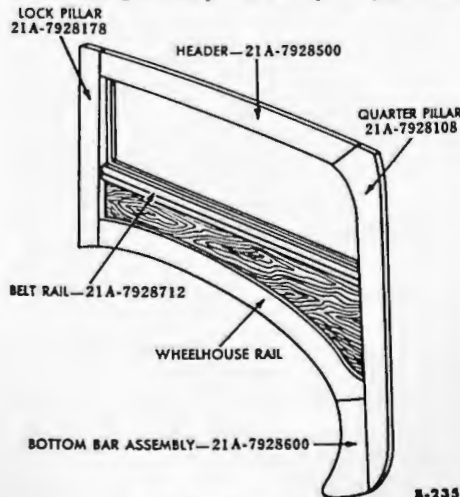

Fig. 3—Quarter Frame
(1) **HEADER REPLACEMENT (fig. 3).** Remove the necessary hardware and the glass from the quarter frame. Saw through the header near the quarter pillar and lock pillar. Remove the screws from the header joints. Using a chisel, clean the joints in the quarter pillar and lock pillar. Install the new header, using glue on the joints. Clamp the joints until the glue is set to ensure a tight joint. Install the screws in the header joints. Install the glass and hardware.
(2) **LOCK PILLAR REPLACEMENT (fig. 3).** Remove the glass and necessary hardware. Saw the pillar off close to the header and wheelhouse rail. Remove the screws from the joints and lining board. Remove the lock pillar. Using a chisel, clean the header and wheelhouse rail joints. Install the new lock pillar, using glue on the joints. Clamp the joints until the glue is set to ensure a tight joint. Install the screws in the joints. Install the glass and hardware.
(3) **BELT RAIL REPLACEMENT (fig. 3).** Remove the glass, necessary hardware, and lining board. Remove the screws from the lock pillar joints and belt rail joint. Remove the lock pillar. Saw the belt rail off near the quarter pillar. Using a chisel, clean the quarter pillar joint. Install a new belt rail and lock pillar, using glue on the joints. Install clamps on the joints until the glue is set to ensure tight joints. Install the screws in the joints. Install the glass, lining board, and hardware.
(4) **QUARTER PILLAR AND REAR BOTTOM BAR ASSEMBLY REPLACEMENT (fig. 3).** Remove the necessary hardware. Remove the lining board and glass. Saw the pillar off approximately 13 inches from the bottom or just below the rear bottom bar assembly. Saw through the pillar at the belt rail joint and header joint.
(5) **WHEELHOUSE RAIL REPLACEMENT (fig. 3).** Remove the necessary hardware. Remove the lining board and glass. Saw through the wheelhouse rail at the quarter pillar, bottom rear bar assembly, and lock pillar. Remove the screws from the joints. Using a chisel, clean the joints. To install the wheelhouse rail, coat the joints with glue, and assemble the wheelhouse rail rear joint to the quarter pillar and bottom bar assembly. Using a bar clamp in the center of the wheelhouse rail to the center of the belt rail, spring the front joint in place. Clamp the joints until the glue is set to ensure a tight joint. Install the screws. Install the glass, lining board, and hardware.